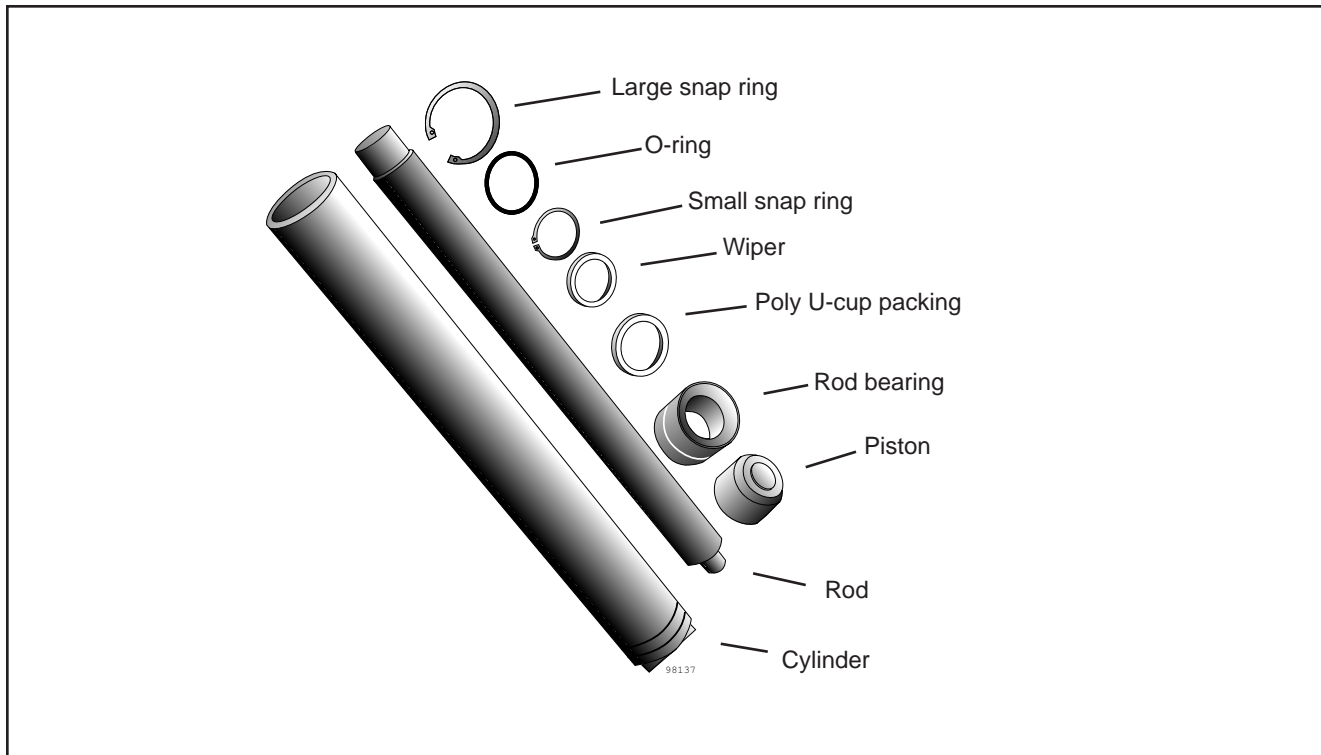

Fig. 8 – J-Style Cylinder
This section will tell you how to repack a "J-style" cylinder, shown in Fig. 8. This type of cylinder is exclusive to Southworth, and repacking kits are only available through Southworth. To order a repacking kit, please call the Parts Department at (207) 878- 0700 or (800) 743-1000. When ordering, specify the model number and serial number of the lift, and the cylinder number(s), as listed on the base of the cylinder(s).
7. Figure 8 shows the parts inside a J-style cylinder. At the upper end of the cylinder, remove the large snap ring. Pull the rod and piston all the way out of the cylinder. This assembly is heavy! Be careful not to drop it as it comes free.
Be careful not to install the wiper backwards. The lip on the wiper should point upwards, as shown in the detail in Fig. 8.